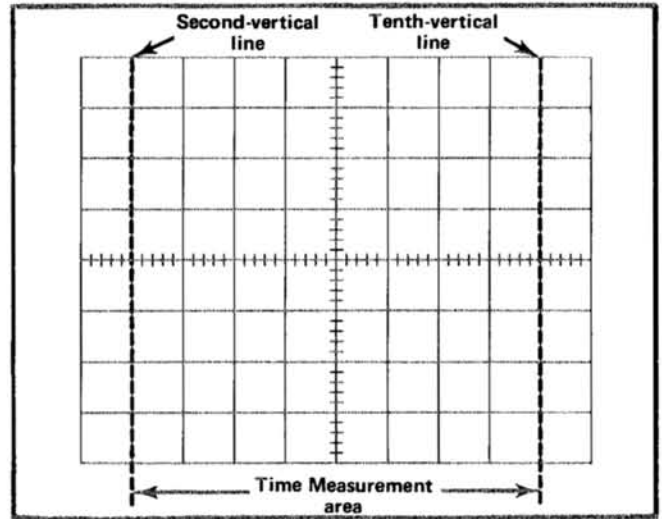

Fig. 2-8. Area of graticule used for accurate time measurements.
When making time measurements from the graticule, the area between the second and tenth vertical lines of the graticule provides the most linear time measurement (see Fig. 2-8). Therefore, the first and last division of the display area should not be used when making accurate time measurements. Position the start of the timing area to the second vertical line (second line from the left) and adjust the TIME/DIV switch so the end of the timing area falls between the second and tenth vertical lines.
5. Set the TIME/DIV switch to the fastest sweep rate that displays less than eight divisions between the time measurement points (see Fig. 2-8). (See the topic entitled Horizontal Sweep Rate in this section concerning non-linearity of first and last divisions of a display.)